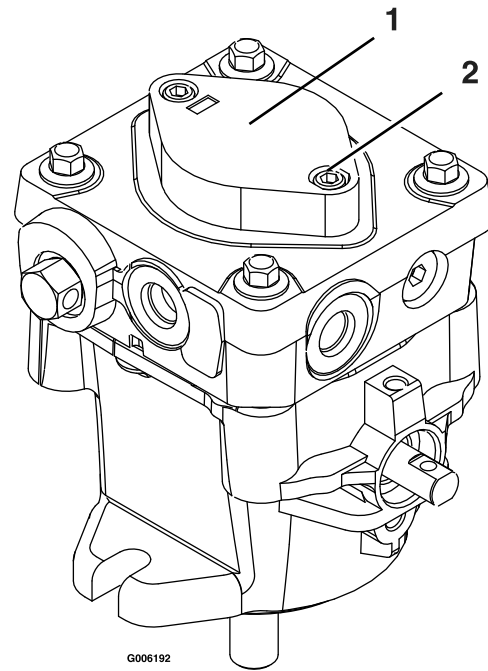

Figure 13
- If either drive wheel does not rotate, one or both of the charge pumps (located on the top of the main pump as shown in Figure 13) may have lost their “prime”. Refer to **Hydraulic System Air Purge** section.
The critical area for purging air from the hydraulic system is between the oil reservoir and each charge pump located on the top of each variable displacement pump (Figure 13). Air in other parts of the hydraulic system will be purged through normal operation once the charge pump is “primed”.
- To “prime” charge pump, loosen two hex socket head capscrews (shown in Figure 13) **1 1/2 turns only. Make sure engine is not running.** Lift the charge pump housing upward and wait for